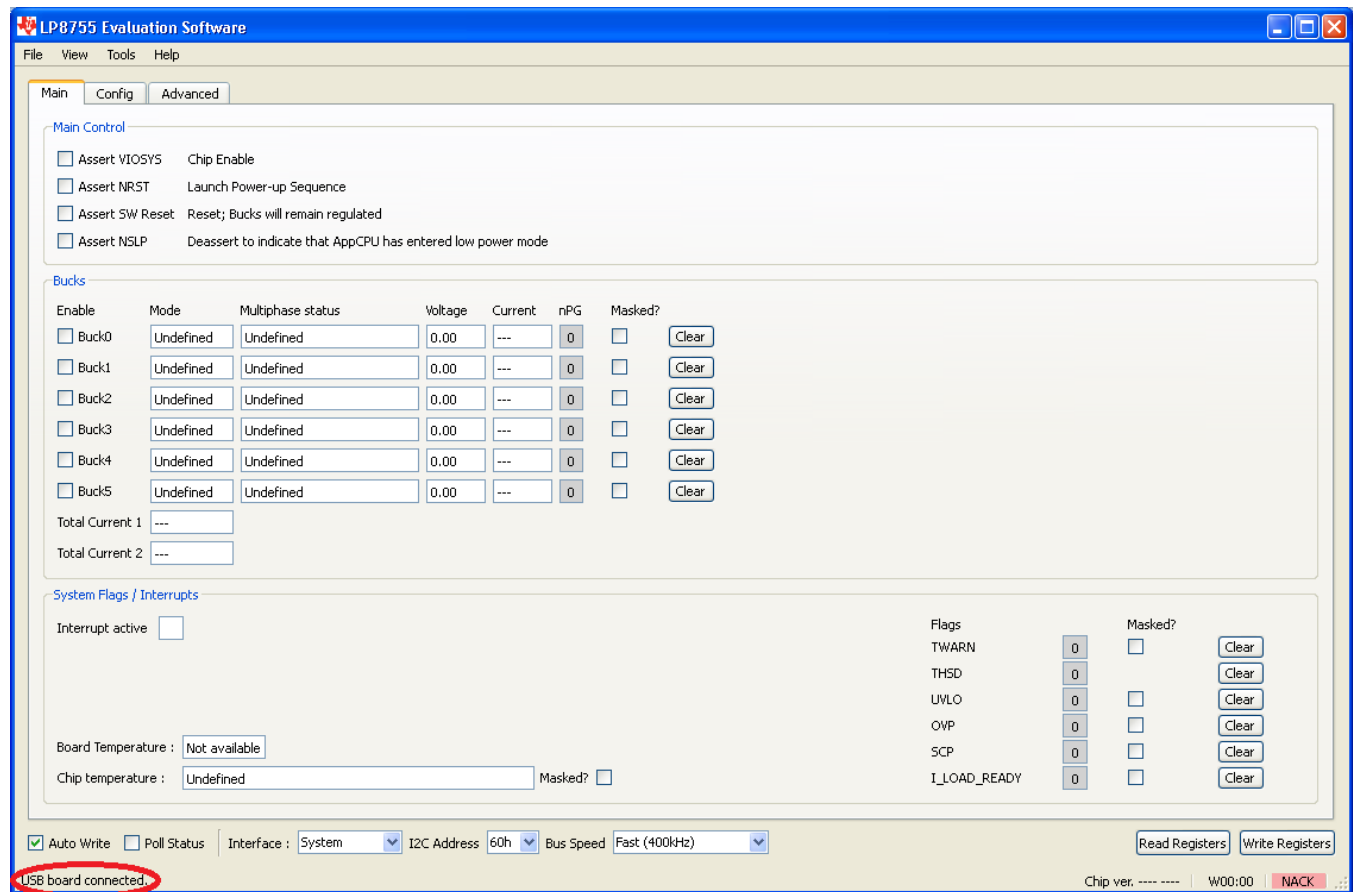

**Figure 2. Evaluation Software Graphical User Interface (GUI)
2. On the Evaluation SW window bottom right corner you should see text "USB Board connected". Refer to Figure 2.